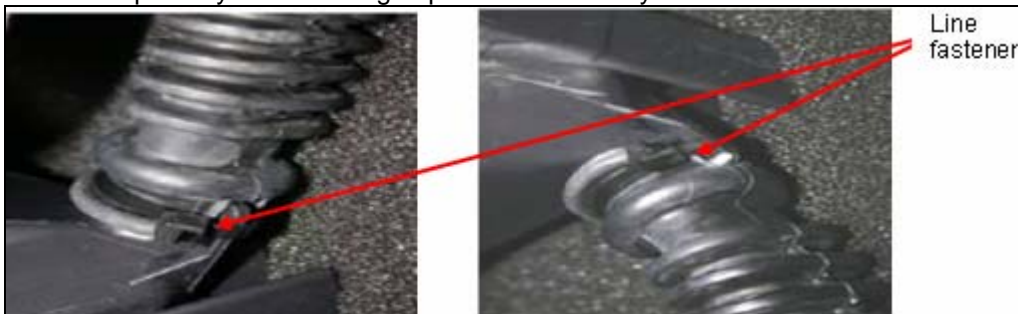

Figure 1
1. If either of the right or left condensation water hoses is dislocated, re-install completely on the outlet fitting of the AC housing. Do not use any lubrication to install hose. Pull on the hose gently to check that it is secure. Wire tie fasteners can be used to hold hose in place. (Figure 1).